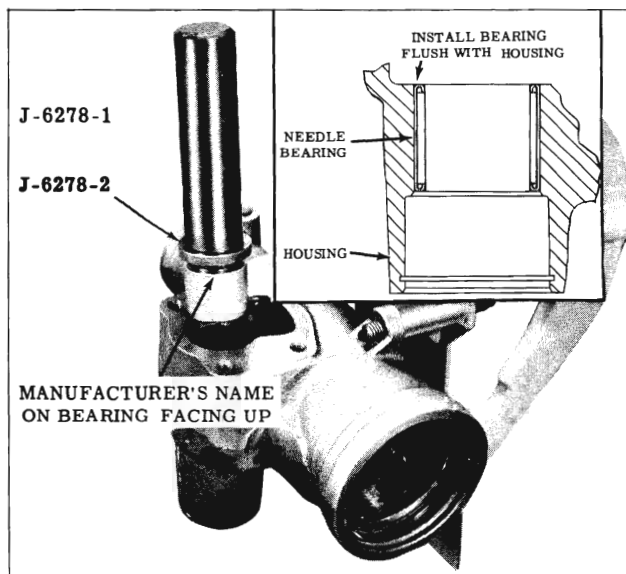

Fig. 4-62 Installing Needle Bearing
1. If the pitman shaft needle bearing was removed, place Adaptor J-6278-2 over Tool J-6278-1; slide the new needle bearing on the tool with the manufacturer's identification against the adaptor and drive the bearing into the housing until adaptor bottoms in housing. (Fig. 4-62)